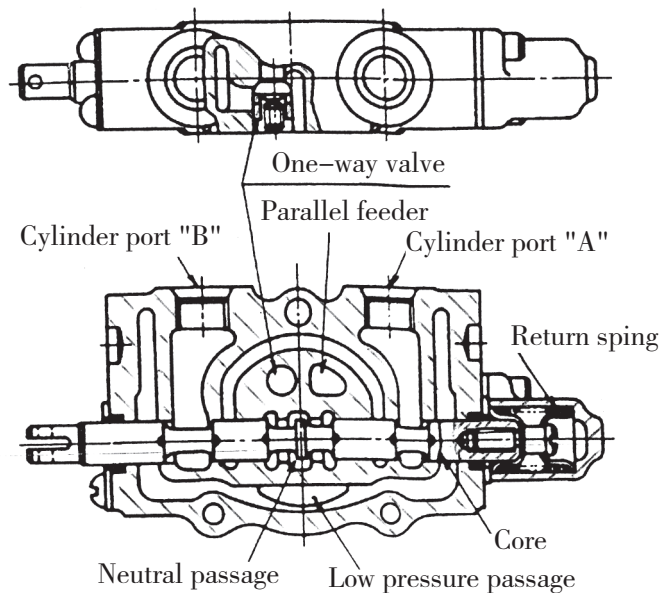

Fig.7.2 Neutral position
(1) Neutral position (See Fig.7-2)